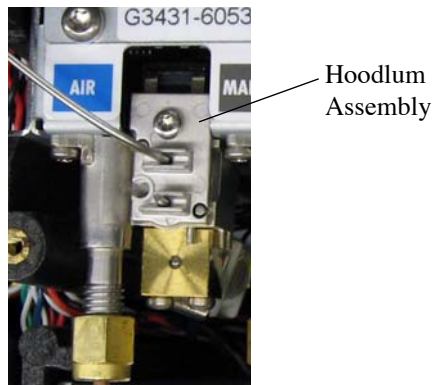

Figure 3.28. Aux EPC Module Hoodlum Assembly in the Air Position
1. Install the hoodlum assembly, provided with the OIM, in the Air position (see Figure 3.28).